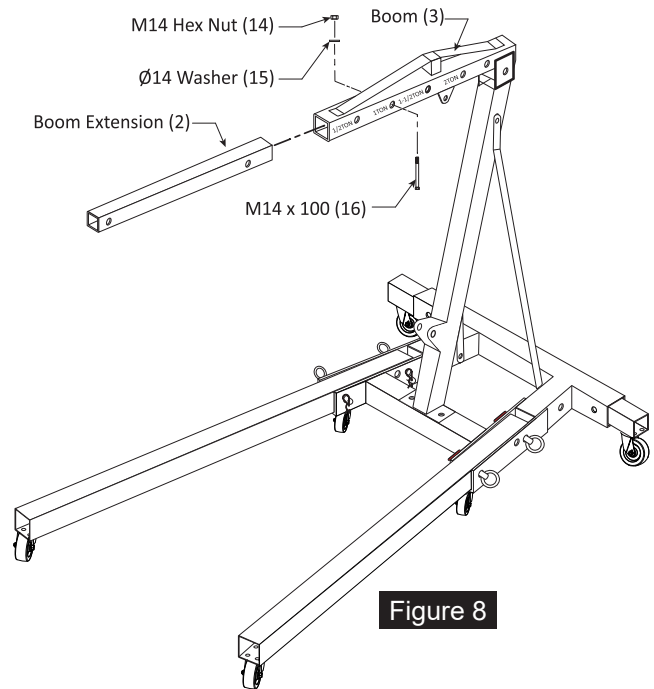

Figure 8
8. Use the Jack to Position the Crane Boom almost level then slide the Boom Extension (2) into the Boom (3) and secure it at the desired load rating using the M14 x 100 mm Bolt (16), Ø14 Washer (15), and M14 Hex Nut (14), (see Fig. 8).